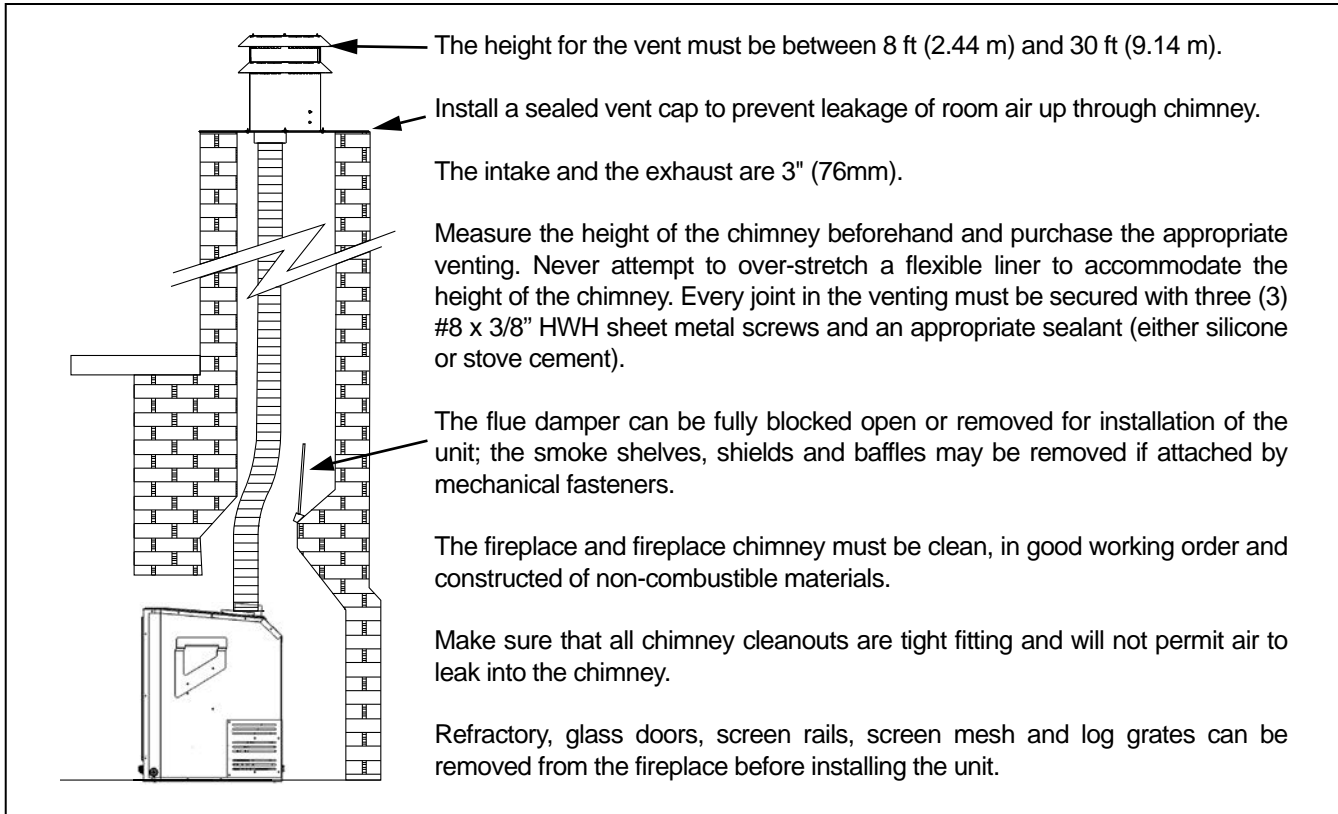
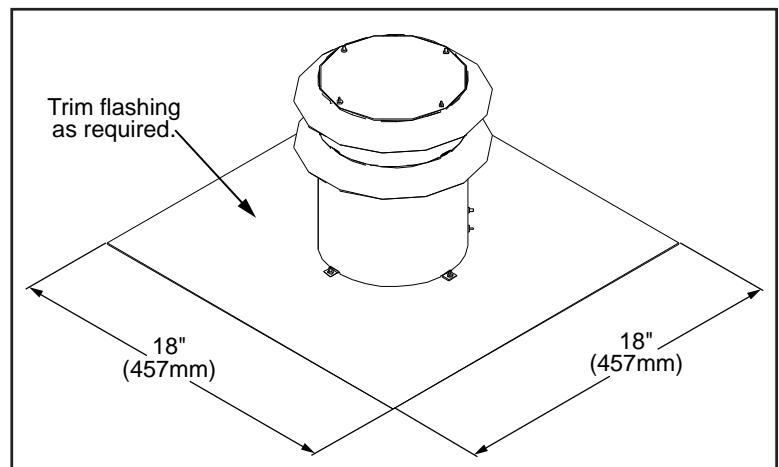

Figure 18: Installation of E33 DV .
Figure 20: Generic Vent Cap Dimensions.
4. Most vent caps can be installed onto chimneys with flue openings up to 16" (406mm) x 16" (406mm) and the actual flashing is 18"x18" (refer to Figure 20). If the chimney is smaller the cap should be trimmed down and folded over.
5. Apply a bead of stove cement sealant to the top section of the Ø3" (76mm) exhaust vent collar plate. Slide the Ø3" (76mm) flex vent over the flue collar and secure with three (3) sheet metal screws evenly spaced.
6. Place a bead of high temperature silicone on the intake collar of the fireplace, slide the Ø3" (76mm) flex intake liner over the collar, secure the flex liner with three (3) sheet metal screws evenly spaced.
7. At the top of the chimney, apply a bead of stove cement sealant to the Ø3" (76mm) pipe of the exhaust vent terminal (refer to Figure 18). Slide the flex liner onto the vent terminal and secure with three (3) sheet metal screws evenly spaced.
8. Place a bead of high temperature silicone on the intake collar of the vent terminal (refer to Figure 18). Slide the Ø3" (76mm) flex intake liner over the collar, secure the flex liner with three (3) sheet metal screws evenly spaced.